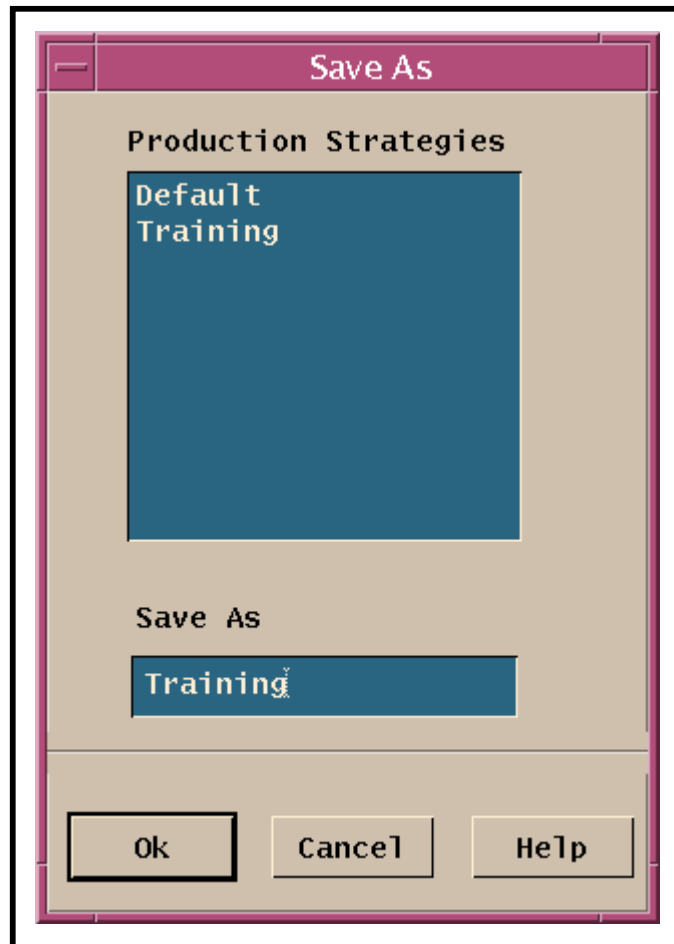

Figure 41. Production Strategies “Save As” Window
- A **Save As** window (Figure 41) is displayed.